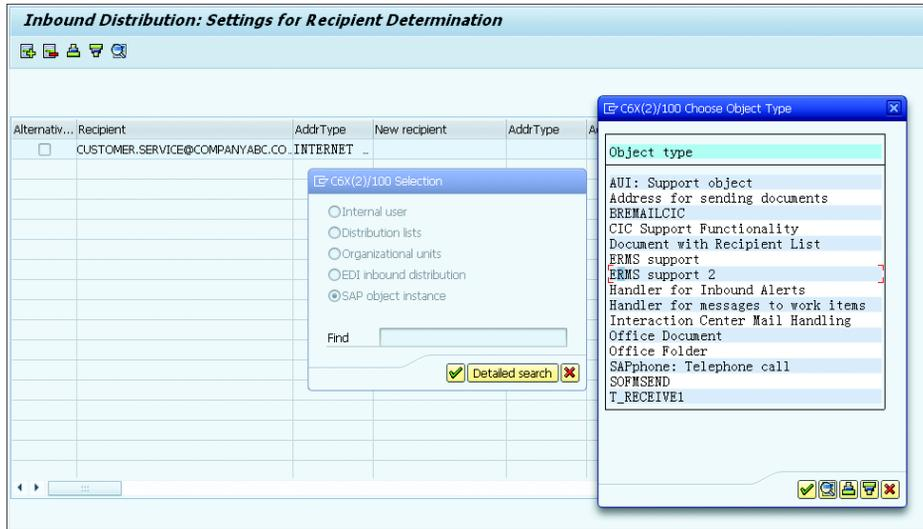
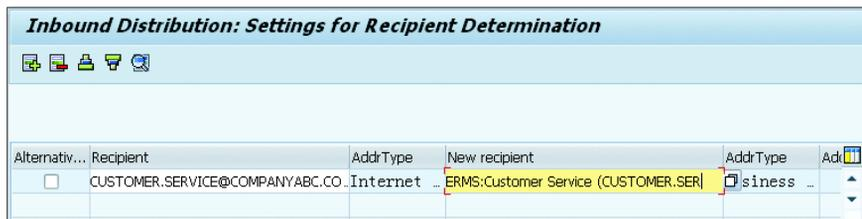

Figure 9.41 Inbound Distribution: Settings for Recipient Distribution (1)
Figure 9.42 Inbound Distribution: Settings for Recipient Distribution (2)
- To trigger the ERMS workflow, assign the receiving email address to the ERMS workflow. In the SAP menu, choose INTERACTION CENTER • E-MAIL RESPONSE MANAGEMENT SYSTEM • SETTINGS • MAINTAIN RECIPIENT DISTRIBUTION. The NEW RECIPIENT is assigned based on the SAP OBJECT INSTANCE – ERMS SUPPORT 2 (see Figure 9.41 and Figure 9.42).